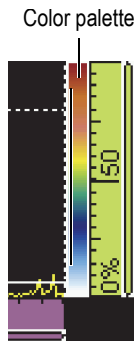

Figure 6-16 The palette on the right side of the A-scan view
1. Tap and hold an amplitude color palette (see Figure 6-16 on page 177), and then select **Load**.
You can see the color palette scale on the right side of the A-scan view (see Figure 6-16 on page 177).